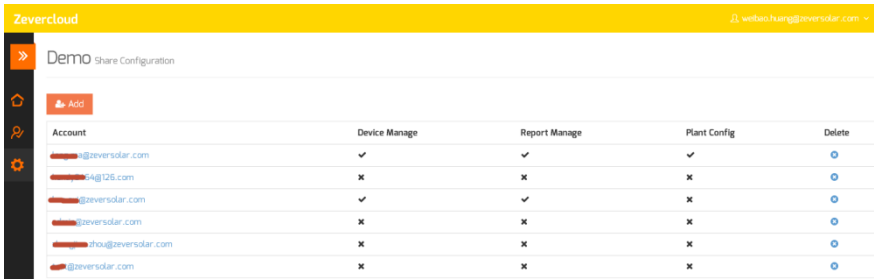

Fig. 8-6: PV plant sharing
Step3: In the check box in Fig. 8-6, you can configure the authorities of the shared users.